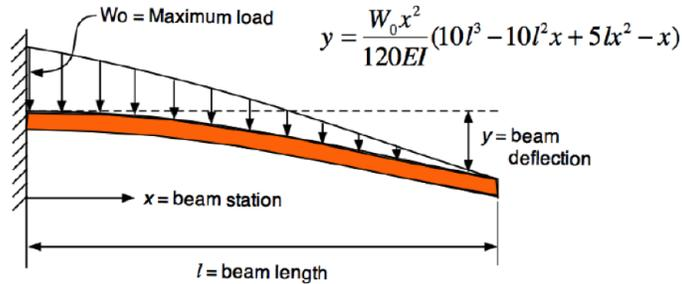

Figure 3: A diagram showing a simple cantilever with a distributed force
3. A cantilever has a distributed load as shown in Figure 3, and the closed form solution of the deflection is shown in the figure.
- (a) The shear force can be found as $\int y dx$ and the bending moment can also be found as $\int \int y dx dx$, adapt the equation shown in Figure 3 to find the shear force and bending moment of the beam shown in Figure 3 (2 marks)